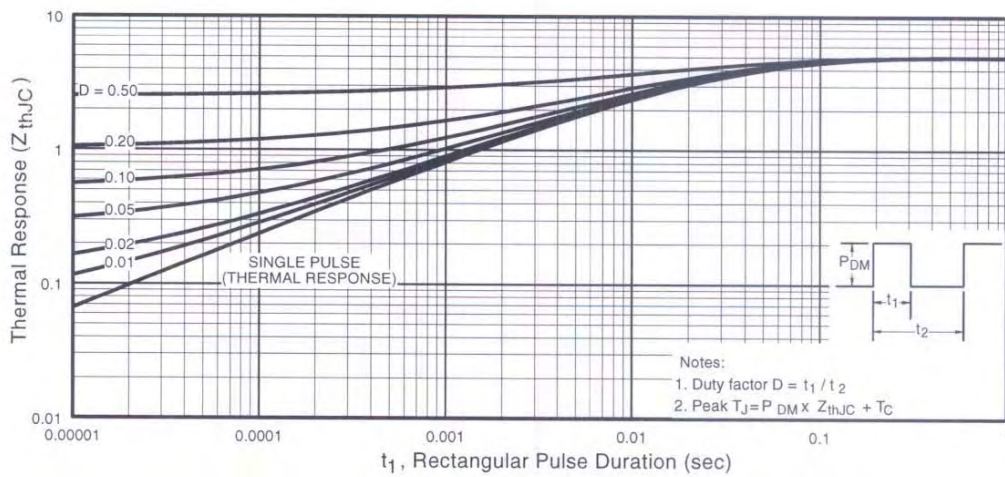

Fig 11. Maximum Effective Transient Thermal Impedance, Junction-to-Case
- ① Repetitive rating; pulse width limited by max. junction temperature. (See fig. 11)
- ② Starting T_J = 25°C, L = 4.7mH